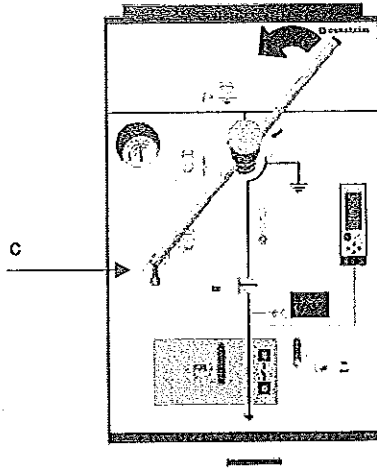

Figure 5.42: Lever Rotation Process
3. Turn the locking part (c) and slide the knob down to remove the interlock plate. Turn it again to lock it into position (refer to figure 5.42).